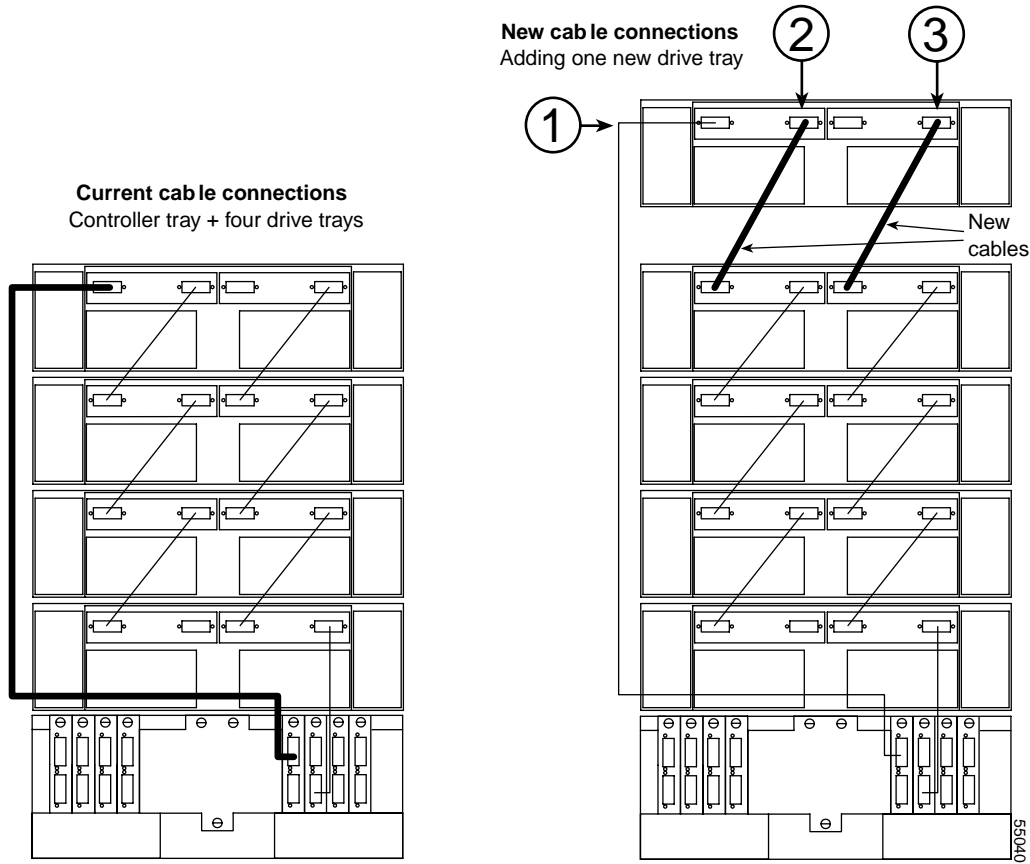

Figure 7-9 Adding a New Drive Enclosure to an Existing Loop
2. Re-cable the drive enclosures follows (see Figure 7-9):
- a. Disconnect the cable (marked “1” in Figure 7-9) from its current connection and connect it to the In connector on the new drive enclosure. If you are adding more than one drive enclosure, connect this cable to the In connector on the last drive enclosure in the new group.
- b. Connect a cable (marked “2” in Figure 7-9) to the In connector that you disconnected in the previous step and the Out connector on the new drive enclosure.
- c. Connect a second cable (marked “3” in Figure 7-9) to the empty In connector on the current drive enclosure and the Out connector on the new drive enclosure.
Important: Depending on how long it takes you to complete steps a and b in Figure 7-9, the storage management software (TPSSM) may report a loss of redundancy error on the drive enclosures in the loop. This error will not interfere with data flow, and will disappear after you complete step b.